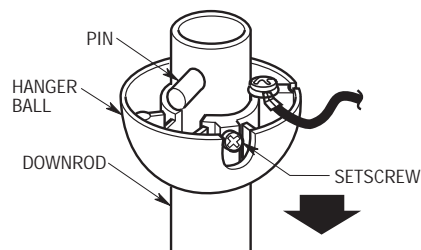

Figure 3
- 4. Remove the hanger ball by loosening the setscrew in the hanger ball until the ball falls freely down the downrod (Figure 3). Remove the pin from the downrod, then remove the hanger ball. Retain the pin and hanger ball for reinstallation in step 10.